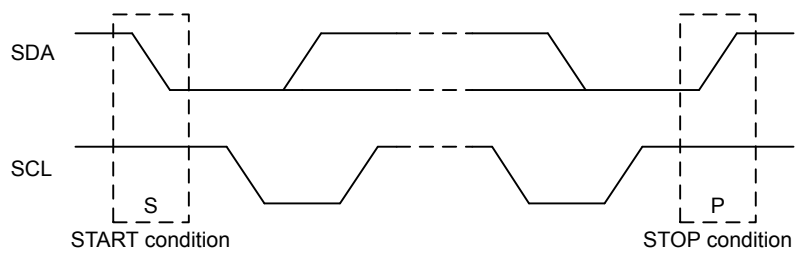

Figure 22.4. I2C START and STOP Conditions
START and STOP conditions are used to initiate and stop transactions on the I²C-bus. All transactions on the bus begin with a START condition (S) and end with a STOP condition (P). As shown in Figure 22.4 I2C START and STOP Conditions on page 709, a START condition is generated by pulling the SDA line low while SCL is high, and a STOP condition is generated by pulling the SDA line high while SCL is high.